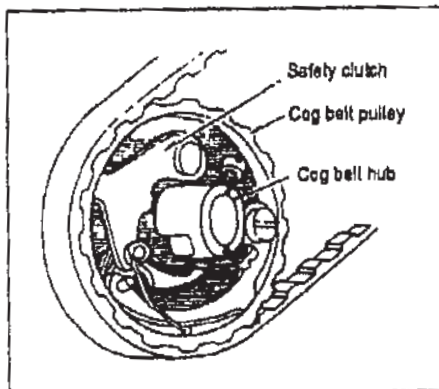

Fig.15
5. Safety clutch device: (Fig.15, 16, 17, 18):